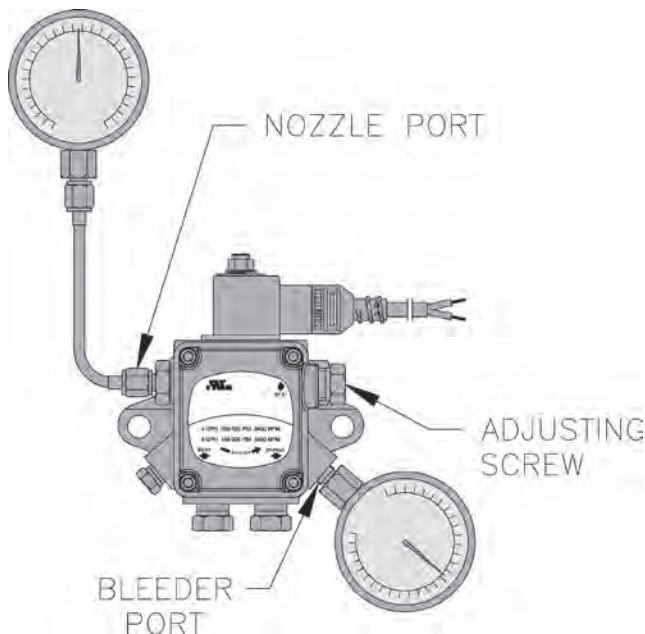

Figure 35: Checking/Adjusting Fuel Pump Pressure
- b. Either, remove plastic hose and oil pump vent fitting, then, install a reliable pressure gauge into vent fitting port, or, install the gauge into the nozzle port. See Figure 35.